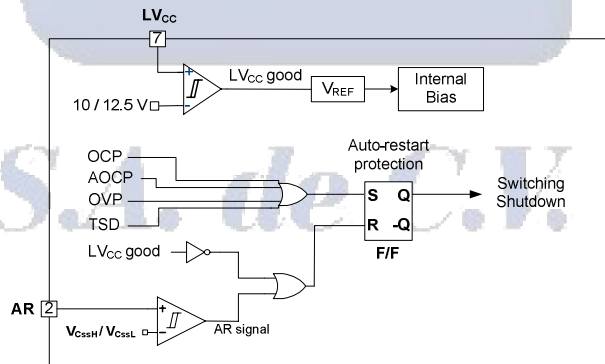

Figure 22. Protection Blocks
**5. Protection Circuits:** The FSFR-US series has several self-protective functions, such as Over-Current Protection (OCP), Abnormal Over-Current Protection (AOC), Over-Voltage Protection (OVP), and Thermal Shutdown (TSD). These protections are auto-restart mode protections as shown in Figure 22.